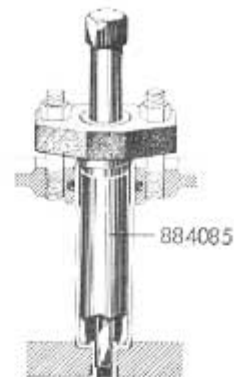

Fig. 8 Spreading of injector sleeve.
3. Oil in the spreader tool no. 884085 (see Fig. 8) and push the tool down into the sleeve. (NB Check that the stud is enough unscrewed). Put some nuts or washers on the long attaching bolts allowing the yoke to be tightened with the attaching nuts.